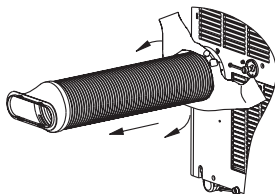

Fig.26
- Unscrew the exhaust hose to the right or left and pull out for uninstillation (Fig.26), keep it safety.